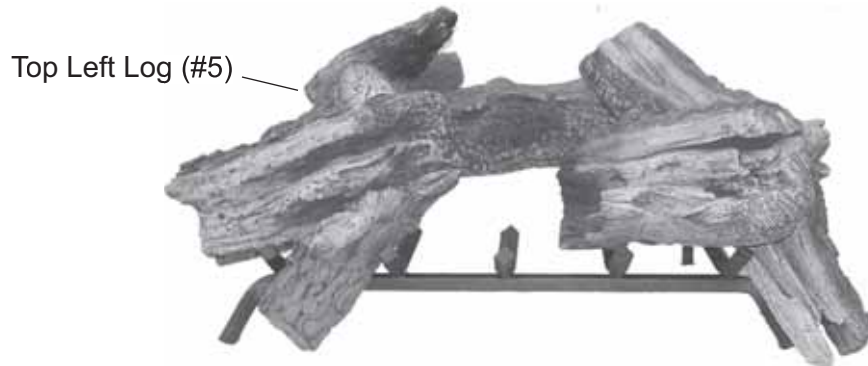

Figure 135 - Placing Top Left Log (#5) behind Rear Log
6. Place Top Left Log #5 behind Rear Log #1 on the notch on rear left of grate stand. *See Figure 135.*